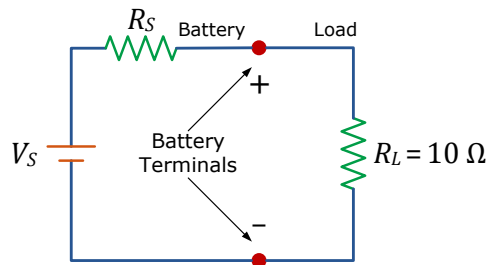

Figure 3.3: Simple circuit with non-ideal battery connected to a load.
- 5 Consider a more practical model of the battery with a given load resistor, as shown in Figure 3.3. When **no load** is connected to the battery, the terminal voltage is measured at 8.8 V. Find the value of V_S .